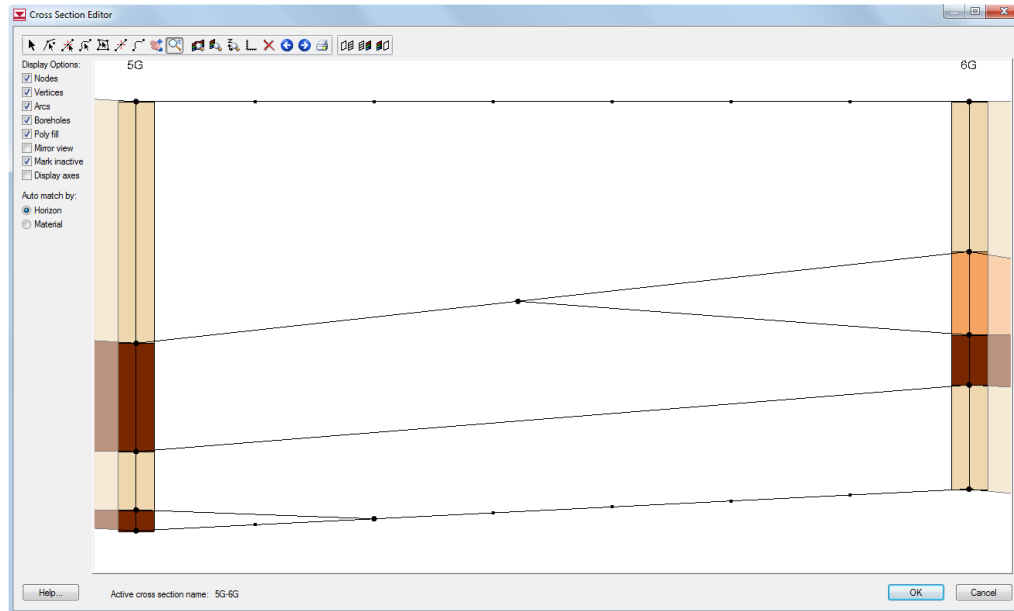

Figure 4 Panel 5G-6G in the cross section editor
7. Using the **Create Arc** 📐 tool, make the cross section look like Figure 4.